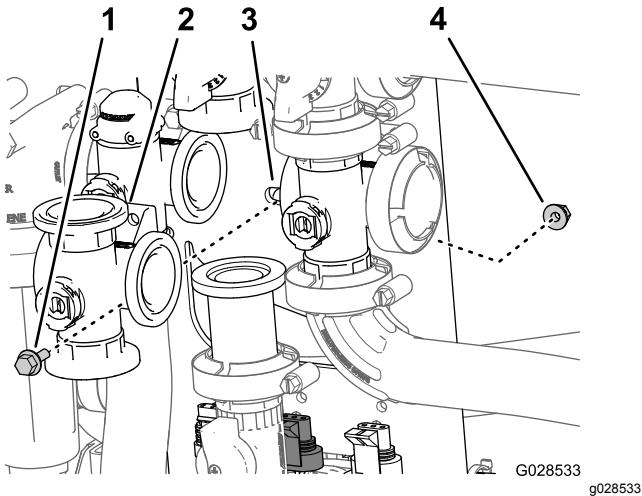

Figure 91
- Remove the flanged-head bolt and flanged locknut that secures the agitation valve to the valve mount and remove the valve manifold from the machine (Figure 91).